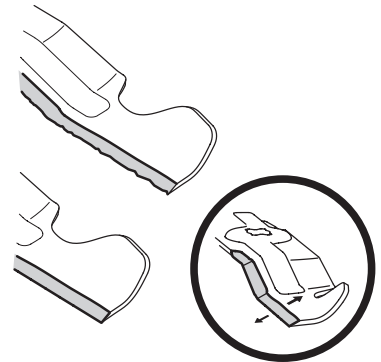

Figure 4-15
4. To properly sharpen the cutting blades, remove equal amounts of metal from both ends of the blades along the cutting edges, parallel to the trailing edge, at a 25° to 30° angle. Always grind each cutting blade edge equally to maintain proper blade balance. See Figure 4-15.